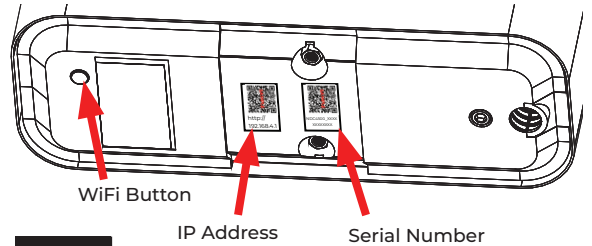

Figure 4
1. Turn on the operator WiFi pressing the WiFi button on the bottom of the operator end cap. (Figure 4)
- The operator serial number and IP address are located on under the cover locking bracket on the bottom end cap. (Figure 4)
- Scan (1) Serial Number QR code and (2) IP address QR code (Figure 4)